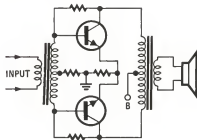

FIG. 7
7. What type of circuit is shown in Fig. 7?